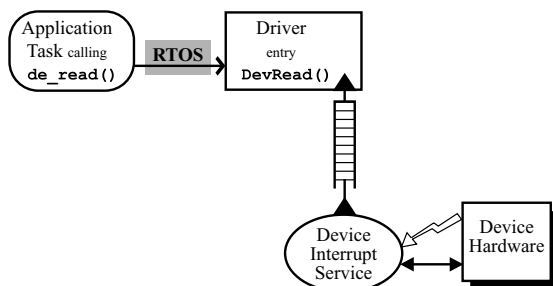

Figure 2. Message Queue
Sometimes an asynchronous driver can be architected so that every time a task asks the device driver for a new input, two things happen: (1) The driver asks the I/O hardware to start getting a new input; and (2) The driver gives the requesting task the last previous input to work on in the meanwhile. Sometimes this may be a useful way to work. Figure 2 shows what the driver would look like.
The ladder-like symbol in Figure 2 represents a message queue. It's a place to store information about a previous input.